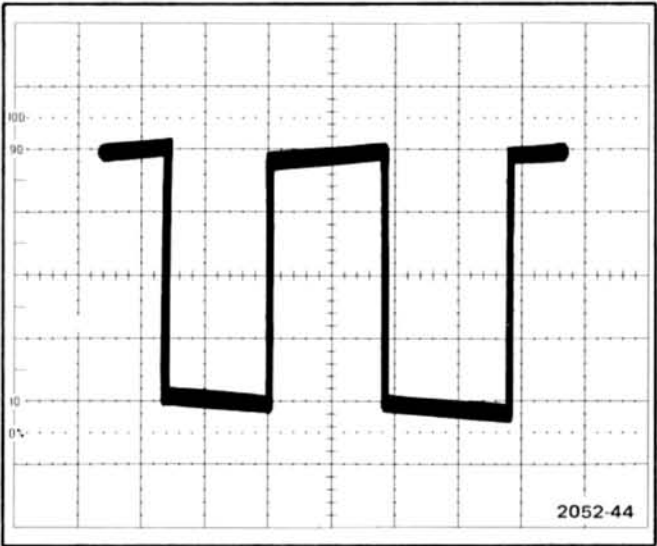

Fig. 3-4. Example of correct compensation.
- g. Refer to Fig. 3-4 for example.